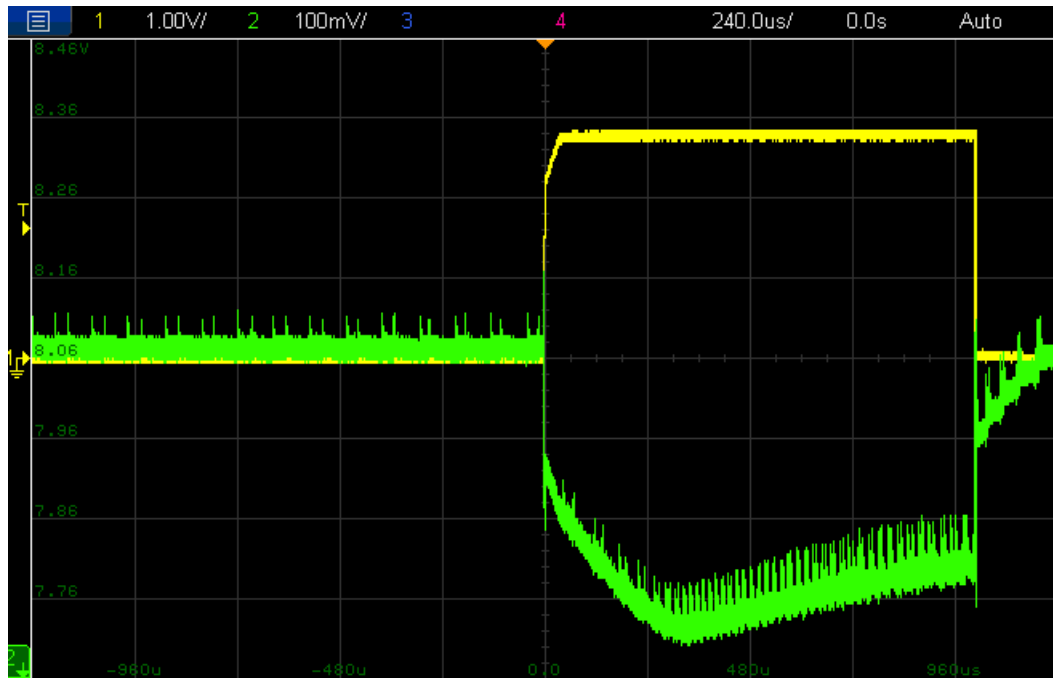

Figure 3: Shows the noise on the power rail (green line) & the voltage waveform on the source of the MOSFET (yellow line) coming from the Op-Amp
- Output of Op-Amp: Rise time $\sim 1\mu\text{s}$ (Slow), so Low ($\frac{dI}{dt}$), much less switching noise (Figure 3)